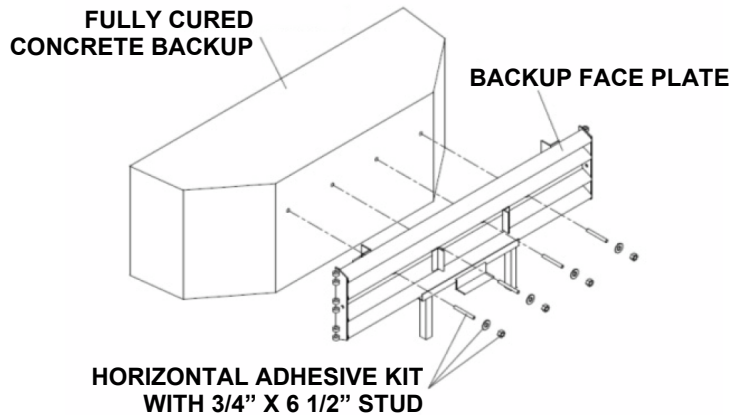

Figure 48
A) Concrete Backup Construction (Figure 48)